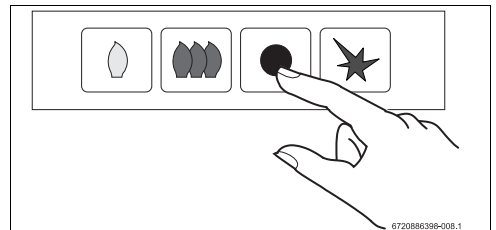

Fig. 22
- ▶ Press OFF button (Fig. 22).